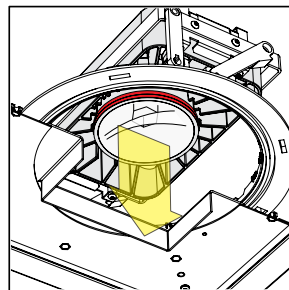

fig. 17
- c. To set optic at the low regress position pull optic directly down. Light engine will magnetically lock into place. (see fig. 17)